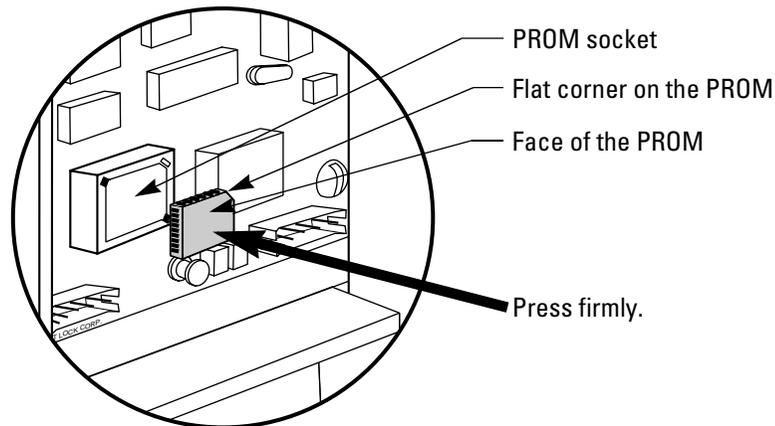

Figure 2.22 Inserting the new PROM
Refer to Figure 2.22 and follow the steps below.
2. Using your fingers, carefully place the PROM in the correct position over the socket. Press firmly on the face of the PROM until it seats completely in the socket. See Figure 2.22.